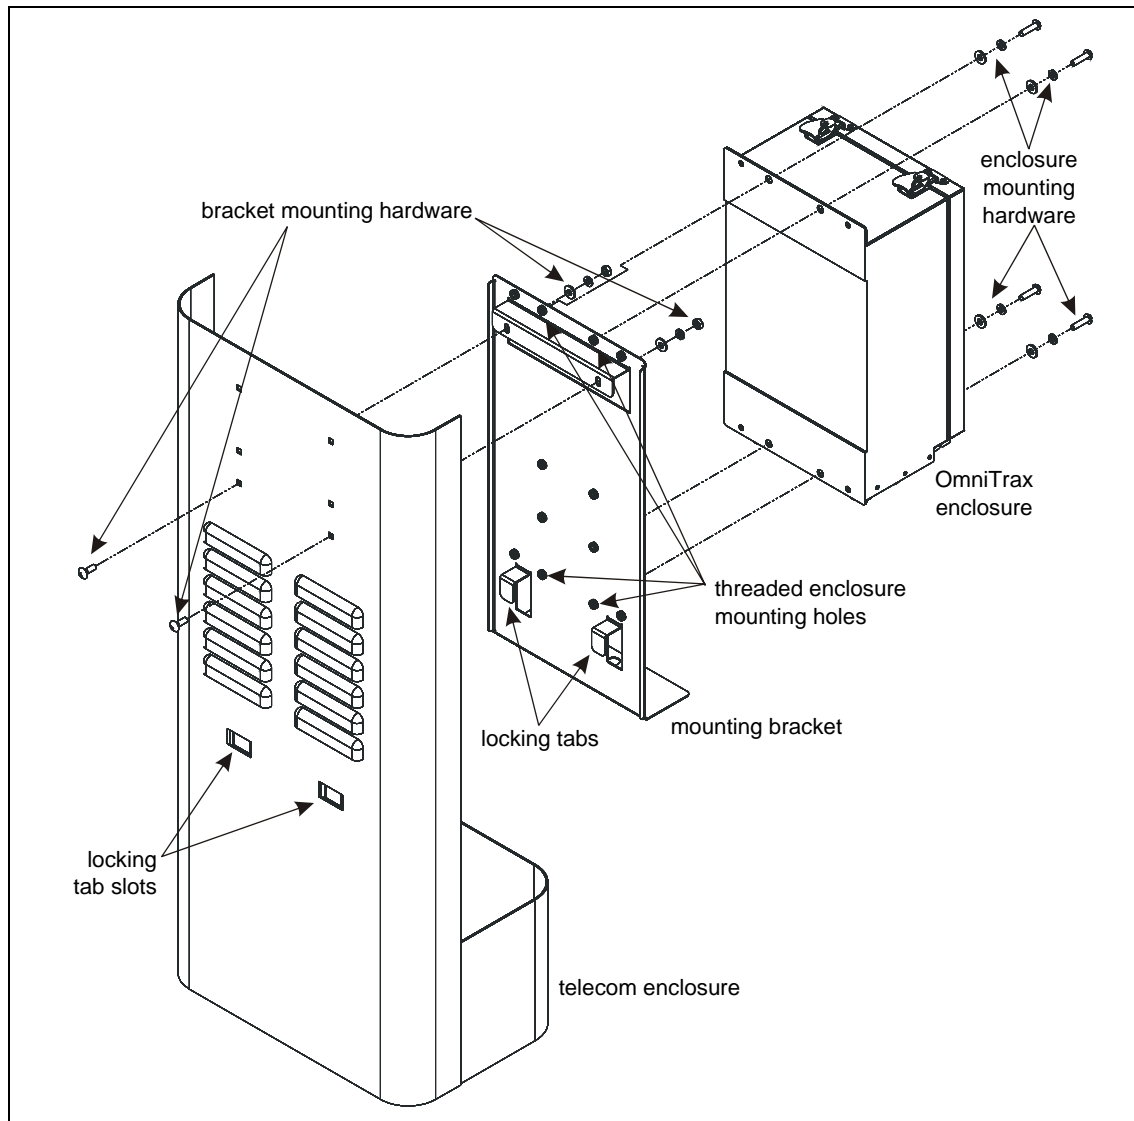
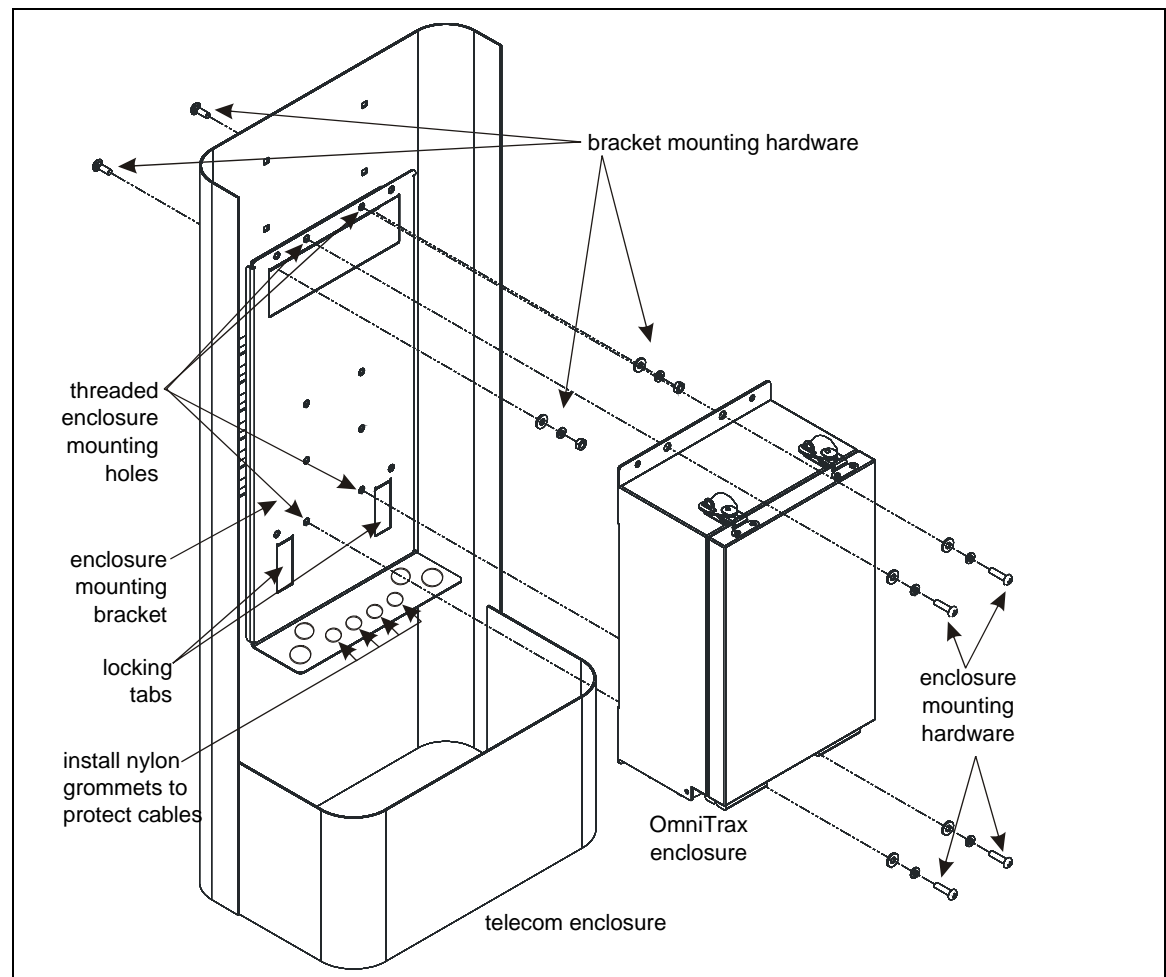

Figure 55: Mounting the bracket and OmniTrax enclosure - rear view
Figure 56: Mounting the bracket and OmniTrax enclosure - front view
1. Mount the OmniTrax bracket inside the telecom enclosure (see Figure 55: Mounting the bracket and OmniTrax enclosure - rear view and Figure 56: Mounting the bracket and OmniTrax enclosure - front view).